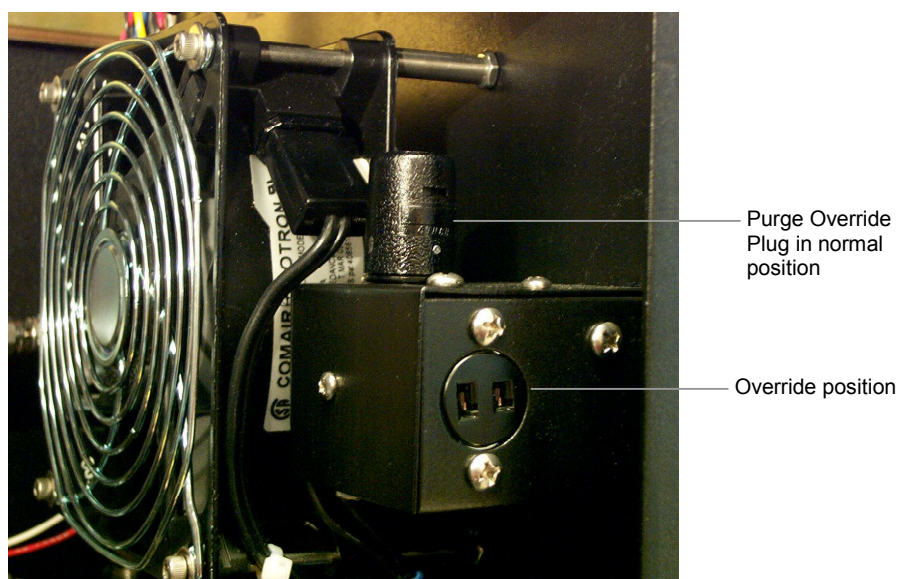

Figure 2-1. Purge Override Plug
3. Unplug the Purge Override plug (inside the EE) from its normal position and plug it into its override position (see Figure 2-1 below).
3. Unplug the Purge Override plug (inside the EE) from its override position and plug it into its normal position (see Figure 2-1 on page 9).